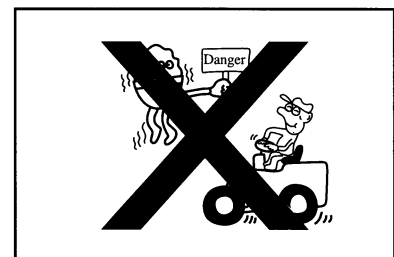

Figure1-50
- The load would not exceed the limit of the rated load. Avoid of overloading. Xugong Science & Technology Co., Ltd. should not be responsible for the injuring or damaging to people and machine caused by overload. (Figure 1-50)